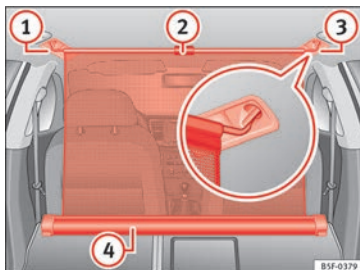

Fig. 170 In the luggage compartment: net partition hooked into the rear seat backrests.
- Pull up handle » Fig. 170 ② to remove the net from the casing » Fig. 170 ④.
- Hook in the net partition on the right side » Fig. 170 ③ (magnified image).
- Hook in the net partition in the left side housing » Fig. 170 ① pulling the rod.
The net partition is properly assembled when the T-shaped ends are firmly secured in the corresponding housings » Fig. 170 ③ and ①.
- Roll up the net into the casing » Fig. 170 ④ lowering it with your hand.